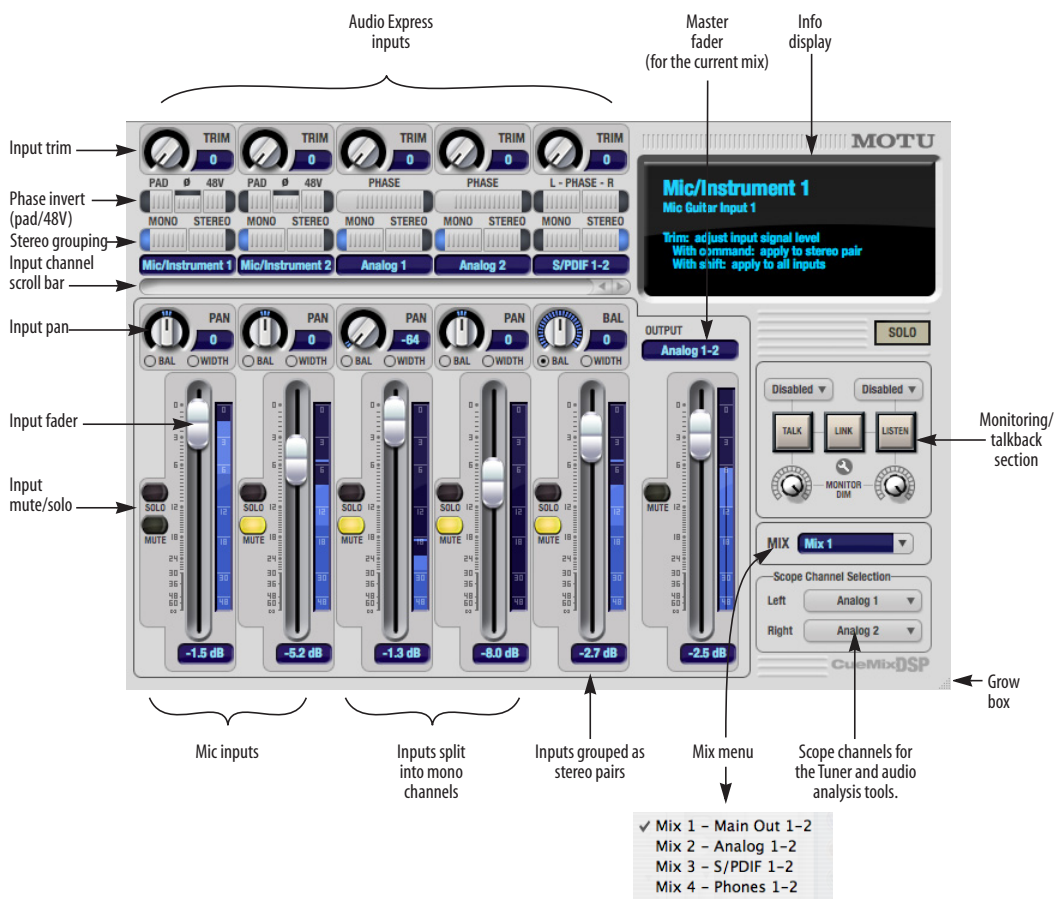

Figure 11-1: CueMix FX is a virtual mixer that gives you control over the Audio Express's on-board mixing features.
CueMix FX displays one mix at a time. To select which mix you are viewing, choose it from the mix menu (Figure 11-1). Click the mix name to change it. The mix output pair appears above the mix master fader (Figure 11-1).
To view more input faders at once, drag the grow box (Figure 11-1) to the right.
To view a mix, choose it from the *Mix* menu (Figure 11-1). The menu shows all mixes by name, followed by the audio interface's output pair that it corresponds to.
The master fader (Figure 11-1) controls the overall level of the mix (its volume on its stereo output). Use the individual input faders to the left to control individual input levels.
The mix mute button (Figure 11-1) disables (silences) the mix.
The *Inputs* section (Figure 11-1) gives you access to individual Audio Express inputs (or input pairs). Unmute the input and bring up its fader to hear the input on the current mix's output. Mute, solo, and pan are also provided for each input channel.
The *Phase* button (Figure 11-1) inverts the phase of the input signal. For stereo pairs, you can invert the phase for the left and right channels independently. For the mic/instrument channels, click the phase button (Ø) repeatedly to cycle among two states for mono channels (on or off) and four states for stereo grouped channels (no inversion, left only, both, or right only).
Click the *Mono* button (Figure 11-1) if you would like an input to be treated as a mono channel. If you would like to work with it as one channel of a linked stereo pair, click the *Stereo* button. Inputs are grouped in odd/even pairs (Mic/instrument 1-2, Analog 1-2, etc.) Stereo pairs appear as a single channel strip in the CueMix FX mixer.
Click the input name at the top of the input channel strip (Figure 11-1) to edit the name. Input names are global across all mixes. This name also appears in host audio software on the computer (if the software supports channel names).
The pan knob (Figure 11-1) for each input pans the input across the mix’s stereo outputs. If the input itself is grouped as a stereo pair, two forms of panning control are provided:
Use the input fader (Figure 11-1) to adjust the level for the input in the mix. Note that an input can have different level, pan, mute and solo settings for each mix. Input channel level meters are post-fader.
The *Scope channel selection* menus (Figure 11-1 on page 58) let you choose what input channels will be fed to the CueMix FX audio analysis (scoping) features. See “Devices menu” on page 63.
- 1 Select the source mix (Figure 11-1) and choose Copy from the Edit menu (or press Command-C).